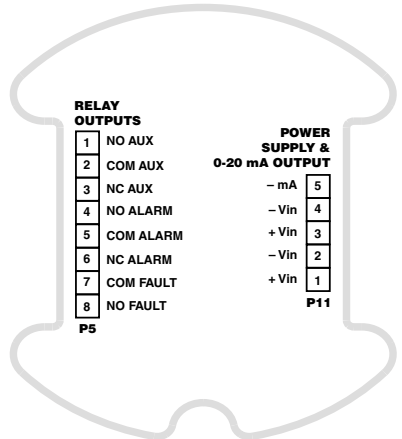

Figure 9—30-3013 Wiring Terminals
Depending on the wiring option that is used, the pre-installed jumpers may be required or discarded. See Table 3 for the Jumper Usage Guide, and Figures 9 to 11 for wiring examples.
- Figure 9 shows the wiring terminals.